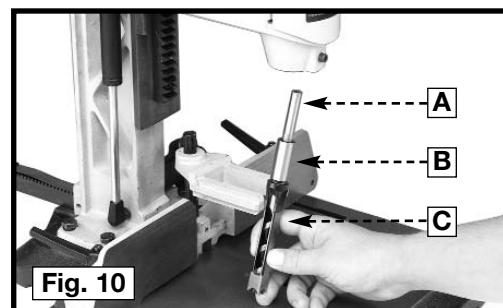

Fig. 10
1. Insert the bit (A) Fig. 10 in the chisel (B).